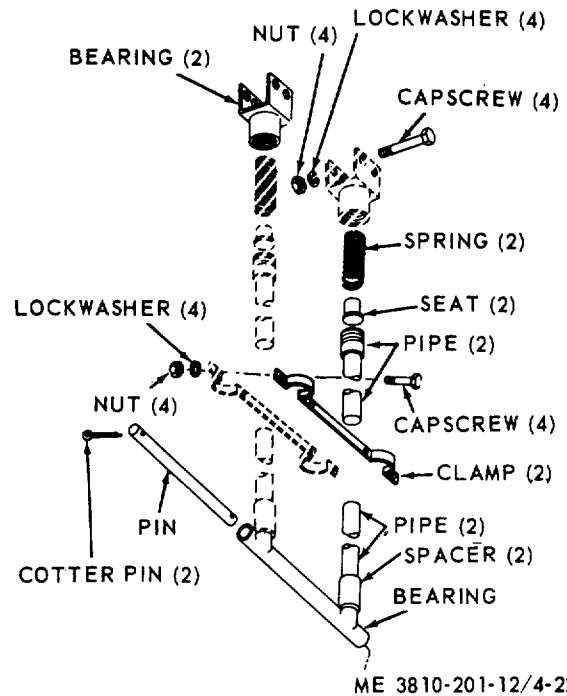

Figure 4-22. Boom backstop, removal, disassembly, reassembly, and installation.
(1) If necessary, raise boom (para 2-12b) to a moderate angle and take pressure off mounting hardware; remove four nuts, lockwashers, and capscrews (fig. 4-22) then lift two bearings from gantry.
(3) Remove two cotterpins from pin securing bearing (fig. 4-22) at boom; drive pin from bearing, then remove boom backstop.
(4) Install in reverse order.
(1) Slide bottom bearing, spring, seat, and pipe as an assembly (fig. 4-22) off of two pipes connected to upper bearing; unscrew two pipes from